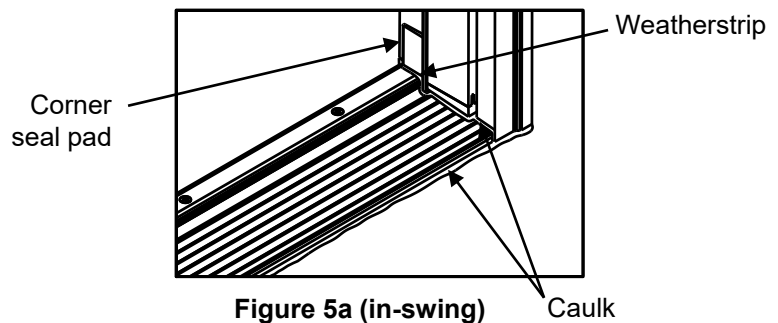
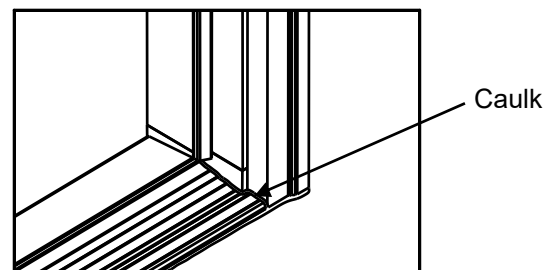

Figure 5a (in-swing)
Figure 5b (out-swing)
- 5 IMPORTANT:** For in-swing doors, install two corner seal pads (included in the installation kit) at each of the jamb bottoms of an active door per Figure 5a. For a double door system, verify that a corner seal pad is installed at the bottom of the active door side of an astragal. The corner seal pad should be tucked underneath the weatherstrip. Caulk at the intersection of the jambs, brickmolds, threshold and floor. For out-swing doors, also caulk at the intersection of the jambs, brickmolds, threshold and floor per Figure 5b.